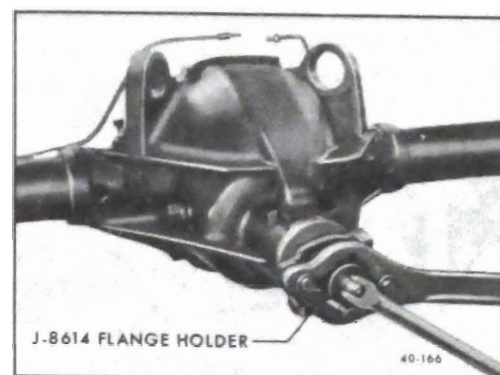

Figure 40-187 - Removing Pinion Nut
1. Install pinion Flange Holder J-8614 to pinion flange and remove pinion nut. See Figure 40-187.